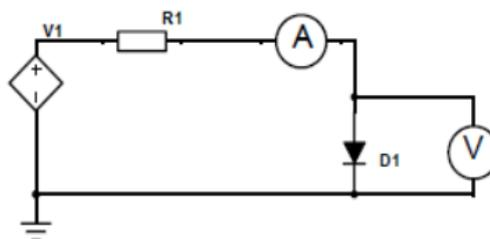
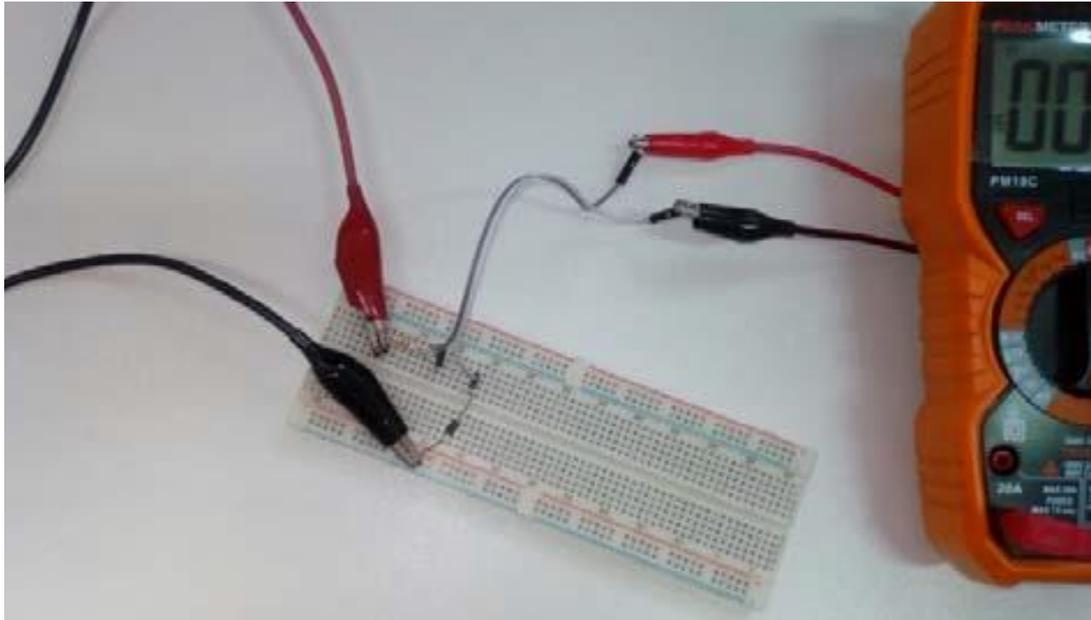

Figure 5.3: Electrical connection diagram
Figure 5.4: Electrical circuit for practical realization of the exercise
Connect the electrical circuit according to the scheme given in Figure 5.3.
1. Connect the DC power supply according the electrical circuit in Figure 5.3
2. The digital multi-meter, used as an ammeter, is connected in series with the elements of the circuit. It is used to measure the current through the diode Figure 5.3 and Figure 5.4.